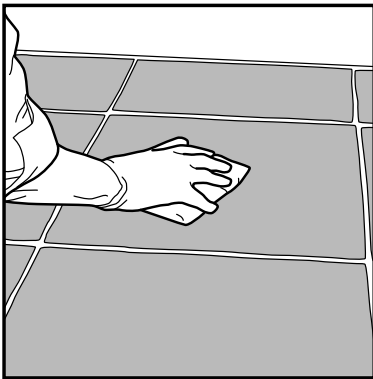

FIGURE 19 Use a white nylon pad to loosen grout on the surface of the tile
- Apply light pressure while moving the pad in a circular motion (Fig. 19).